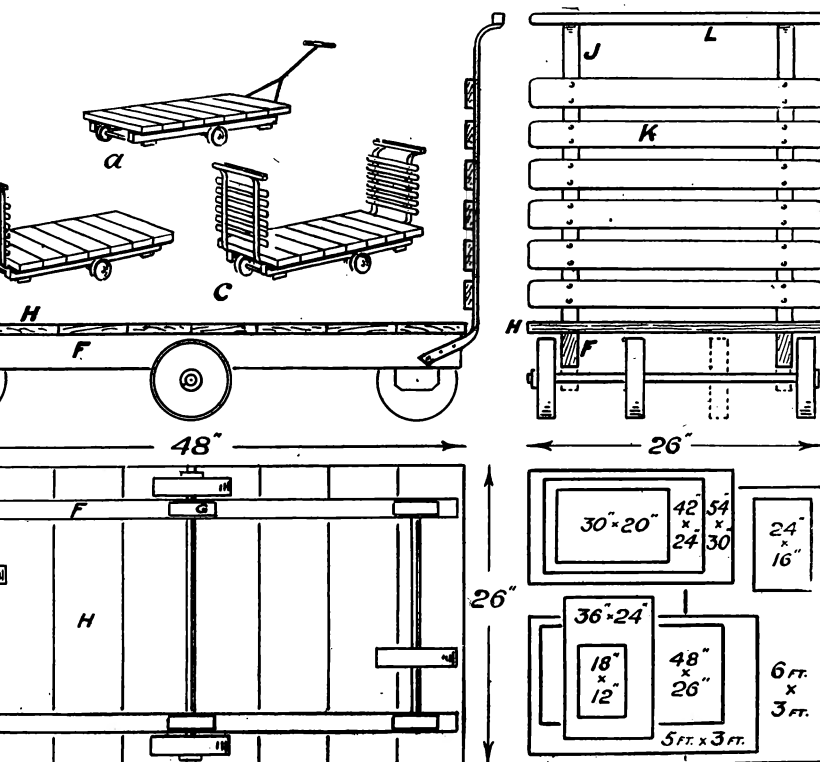

FIG. 4. HOME OR WAREHOUSE TROLLEY: SCALE ELEVATIONS AND PLANS.
are exceptional we show an average size which might be either 3 ft. 6 ins. by 24 ins., or (as in Fig. 4) 4 ft. by 26 ins. Iron wheels from 4 ins. diam. up to 12 ins. diam. are available; 7 ins. are usual for a 3 ft. 6 ins. length and 8 ins. for 4 ft.
For the bearing rails (F, Fig. 4) again use ash, birch, or beech. These should be $1\frac{1}{2}$ ins. thick, the width being 3 ins. or $3\frac{1}{2}$ ins. according to the diameter of wheel. Cut the rails so that in length they are 2 ins. less than length of platform, and note that at each side they are set in either 3 ins. or $3\frac{1}{2}$ ins. so that the platform (H) overhangs and protects the centre wheels. Two stiffening cross rails (not shown) may be fitted if desired, but should not be necessary. Platform boards (H) must be $\frac{7}{8}$ in. thick for a trolley of the size, these firmly screwed. Where, however, the bearing clamps (G) come, the rails (F) must be bored right through for bolting. Box clamps are, as a rule, provided with the wheels and axles. Platform boards
Where ends are required the height is fixed according to the worker's needs. At Fig. 4 the height is 27 ins. above platform. The supports (J) are usually worked for T-shaped iron which does not readily yield. Particulars should be given to the smith who will work the ends for bolting to rails and also bore the parts for bolting on the laths (K) and handle bar (L). Laths will be 2 ins. or $2\frac{1}{2}$ ins. wide by $\frac{3}{4}$ in. or $\frac{7}{8}$ in. thick according to size of trolley. Handles can be worked from stuff $1\frac{1}{2}$ ins. or $1\frac{1}{4}$ ins. square. In both cases the lengths correspond with width of platform.